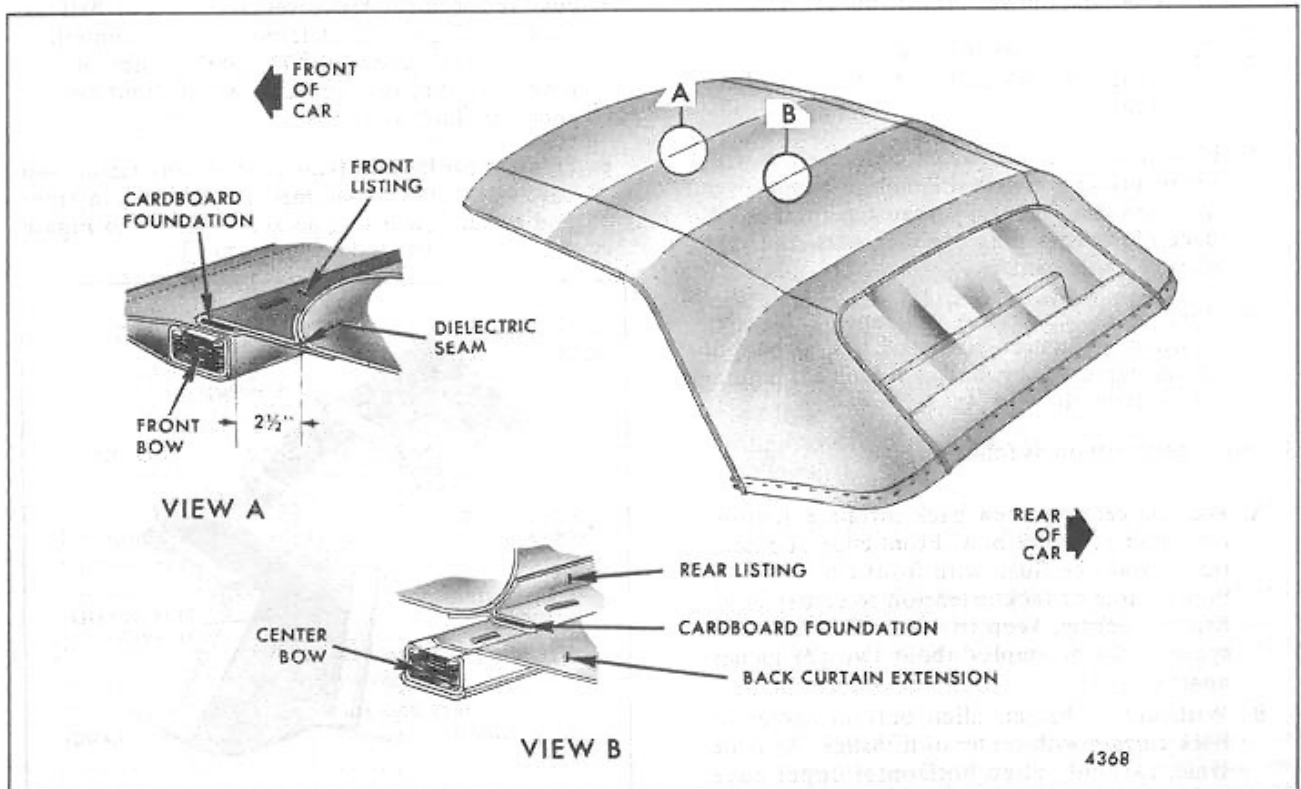

Fig. 11-Top Cover Attachment At Front And Center Roof Bows
- A. Detach top cover rear listing from center bow. Turn rear of top cover forward for access to rear listing (Item "B", Fig. 11).
- B. Detach top cover front listing from front roof bow. Turn front of top cover rearward for access to front listing (Item "A", Fig. 11).
6. Transfer cardboard foundations from original top cover, or install replacement foundations in front and center bow listing pockets as shown in Figure 11.
7. Position center of top cover rear listing on center bow and staple or tack in place. Space fasteners about two (2) inches apart (Fig. 11).
13. Secure top cover front listing to front roof bow as follows (Fig. 11):
- C. Secure listing in place with staples or tacks spaced about two (2) inches apart. Distance from end of foundation to center of dielectric seam should be about 2-1/2 inches as shown in View "A", Figure 11.
4. Transfer cardboard foundations from original top cover, or install replacement foundations in front bow and center bow listing pockets as shown in Figure 11.